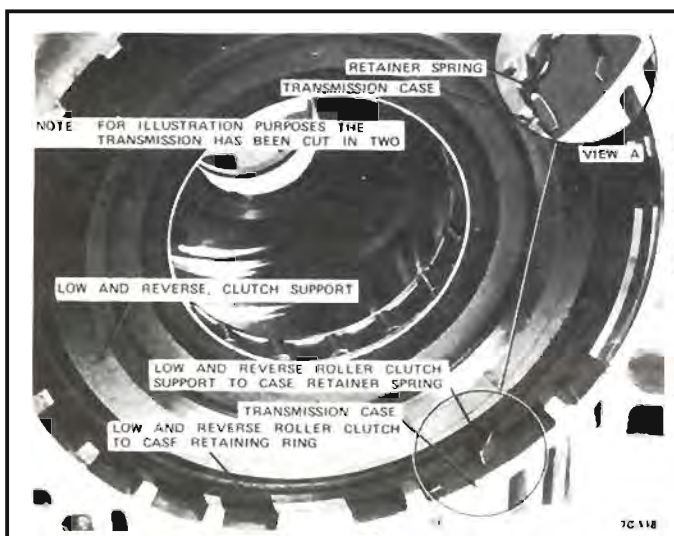

Figure 36 Retainer Position
1. Remove low and reverse roller clutch support to case retaining ring. See Figure 36.
3. Remove low and reverse clutch support retainer spring. See Figure 36.